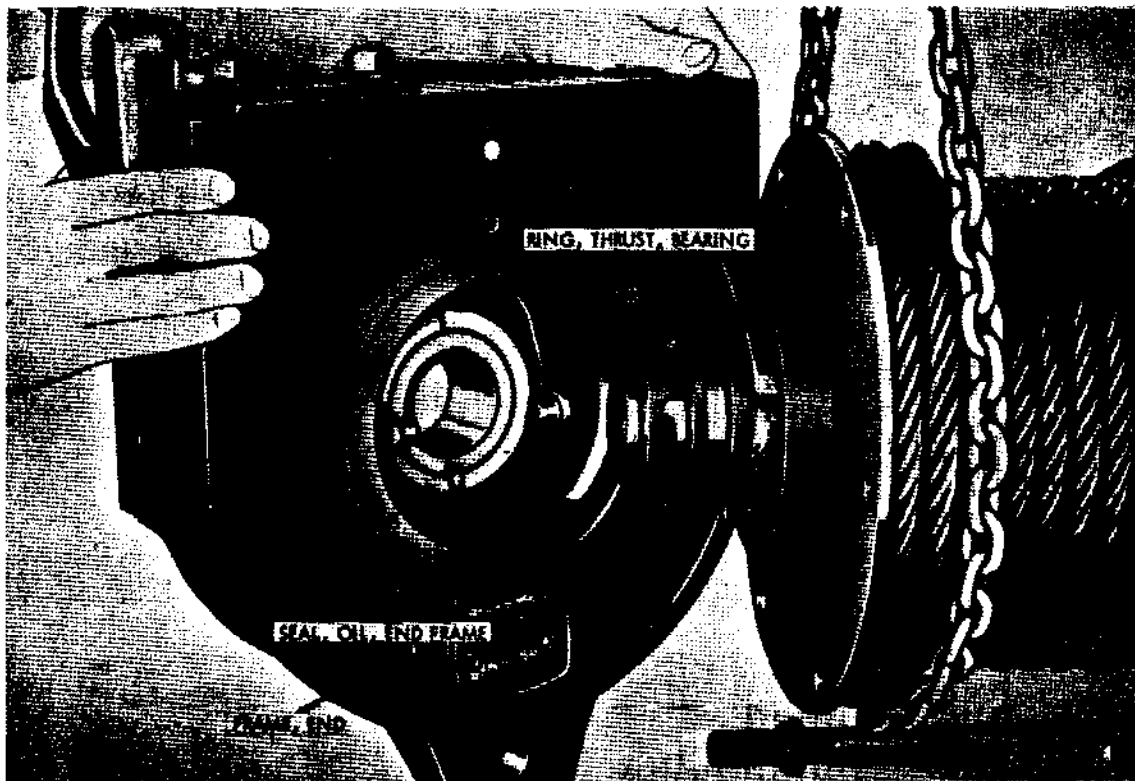
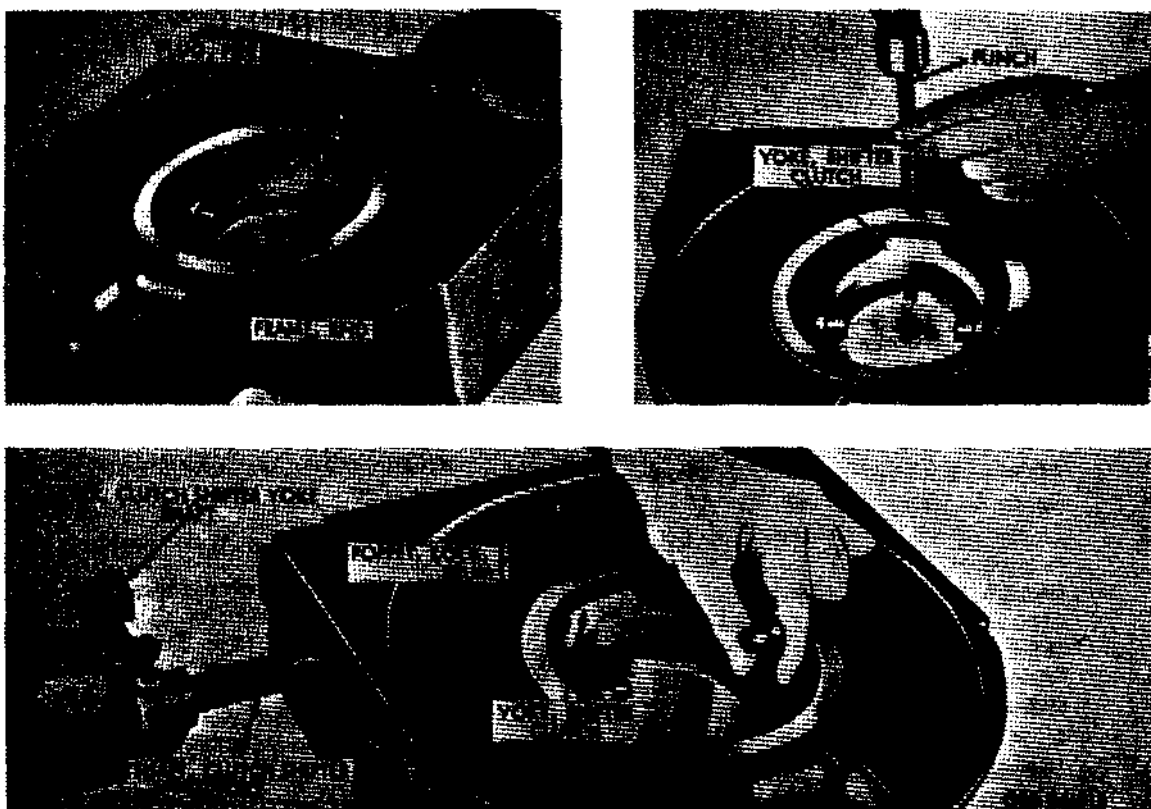

Figure 41. Removing end frame
Figure 43. Removing clutch shifter yoke shaft and clutch shifter yoke
(a) Support the drum and cable assembly with a chain hoist and lift off end frame (fig. 41).
Note. Do not disturb end frame oil seal (fig. 41) unless inspection warrants replacement.
- (c) Remove pipe plug (fig. 43) and square socket head pipe plug on opposite side of end frame. Use a punch to drive straight pin from clutch shifter yoke (fig. 43). Pull clutch shifter yoke shaft from end frame and lift out clutch shifter yoke.
- (10) If shifter shaft oil seal and end frame oil seal (fig. 41) have been removed, press new seals in place. Install clutch shifter yoke shaft in end frame. At the same time, position clutch shifter yoke (fig. 43) in end frame, being sure shifter shaft engages yoke. A line hole in yoke with hole in shifter shaft and install straight yoke pin. Install square socket head pipe plug in end frame and also on drum side of end frame (fig. 43).
- (13) Position end frame assembly on drum and drum shaft (fig. 41). Be sure clutch shifter yoke in end frame engages drum sliding clutch on drum shaft and end frame tie rod (fig. 41) is aligned with frame. Also align sleeve with bearing assembly to dowel pin in end frame.
b. Adjustment. To increase braking action of automatic brake, turn adjusting bolt (fig. 43) clockwise one-half turn, and test brake adjustment (a above).